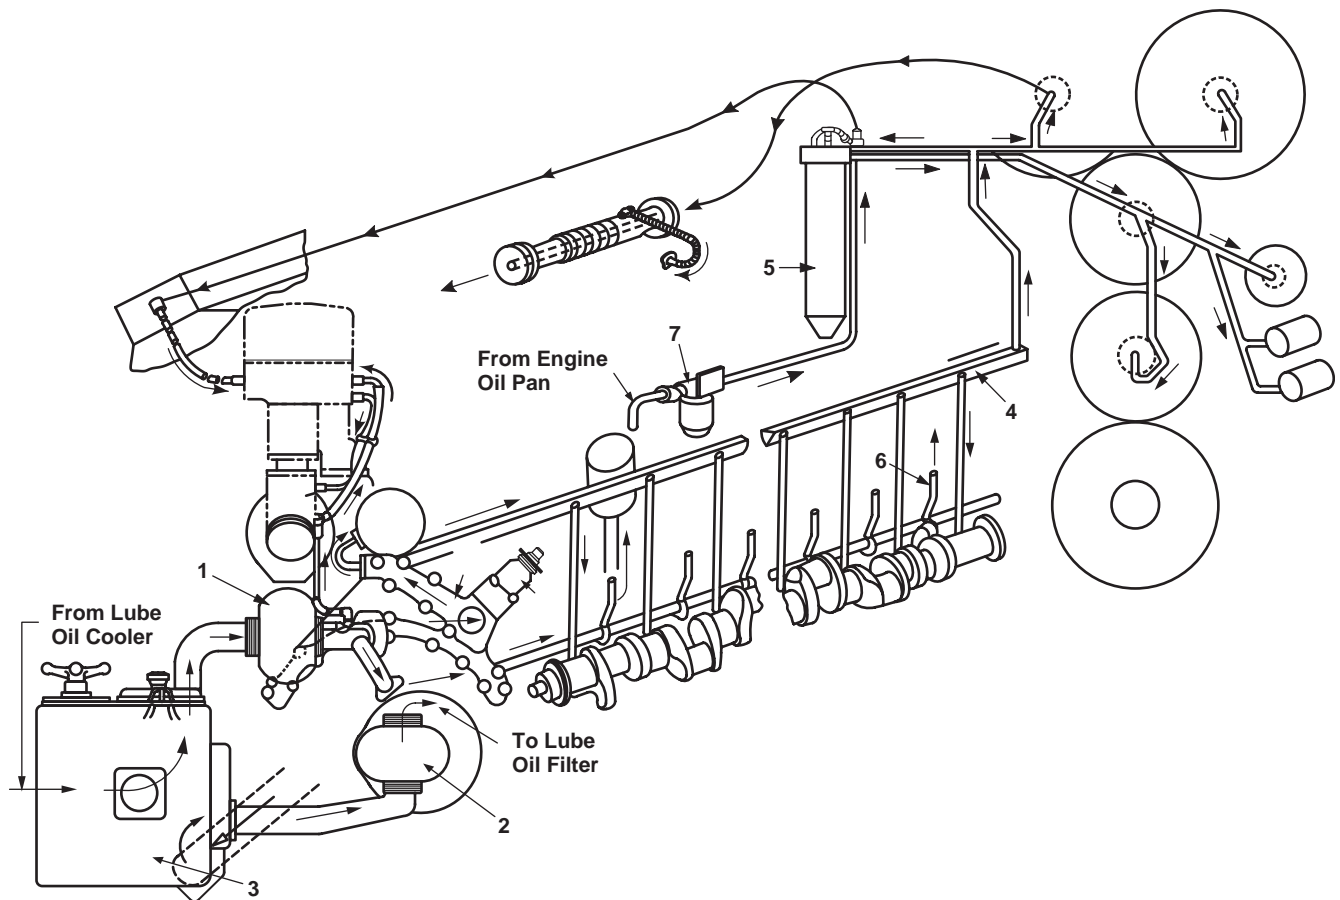

Figure 4. Main Engine Lubrication System
The complete engine lubricating oil system is a combination of five separate systems, holding 125 gallons (473 liters) of lubricating oil. The five separate systems are: the main lubricating system, the piston cooling system, the scavenging oil system, the turbocharger lubrication (soakback) system, and the prelube system. Each system has its own oil pump. The main lube oil pump and main lube oil and piston cooling oil pump (figure 4, item 1), although individual pumps, are both contained in one housing and driven from a common drive shaft. The scavenging oil (figure 4, item 2), soakback, and prelube pumps are separate pumps. All pumps except the soakback and the prelube pumps are driven from the accessory gear train at the front of the engine.
The main lubricating oil system supplies oil under pressure to most of the moving parts of the engine. The main lube oil and piston cooling oil pump (figure 4, item 1) take oil from the strainer housing (figure 4, item 3) at the right front of the engine. Oil from the main lube oil and piston cooling oil pump goes into the main oil manifold (figure 4, items 4), which is located above the crankshaft and extends the length of the engine.
Oil tubes at the center of each main bearing "A" frame conduct oil from the main manifold (figure 4, item 4) to the upper half of the crankshaft bearings. Drilled passages in the crankshaft supply oil to the connecting rod bearings, damper, and accessory drive gear at the front of the crankshaft. Runoff oil from the adjacent main bearings lubricates the crankshaft thrust bearings.
Oil from the main lube oil manifold (figure 4, item 4) enters the gear train at the idler gear stubshaft bracket located at the rear of the engine. Oil passages in the stubshaft bracket distribute the oil. One passage conducts oil to both the right and left bank camshaft drive, gear stubshaft brackets, and to a manifold connected to the turbocharger oil filter (figure 4, item 5). After passing through the turbocharger oil filter, the oil enters the return line in the manifold and flows back to the idler gear stubshaft. A passage in the idler gear stubshaft bracket directs lube oil to the upper and lower stubshaft bearings. Filtered oil enters the turbocharger oil system from the upper idler gear stubshaft.
An oil passage in the turbocharger oil filter (figure 4, item 5) head, parallel to the turbocharger oil filter output line, is connected to a passage in the turbocharger oil manifold. An oil pressure line is connected between the manifold passage and the low oil pressure device in the governor.
Internal parts of the piston are lubricated and cooled by the piston cooling oil pump of the main lube oil and piston cooling oil pump (figure 4, item 1). The piston cooling oil pump receives oil from a common suction with the main lube oil pump and routes oil to the two piston cooling oil manifolds extending the length of the engine, one on each side. A piston cooling oil pipe (figure 4, item 6) at each cylinder directs a flow of oil through the carrier to cool the underside of the piston crown and the ring belt. Some of this oil enters the oil grooves in the piston pin bearing and the excess oil drains out through holes in the carrier crown to the sump.
The scavenging oil system pump (figure 4, item 2) takes oil through the scavenging oil strainer from the oil pan sump or reservoir. The pump forces the oil through the oil filters and oil cooler that are located forward of engine. Oil then returns to the strainer housing to supply the main lube oil pump and piston cooling oil pump with cooled and filtered oil. Excess oil spills over a dam in the strainer housing and returns to the oil pan.
Prior to the engine startup, a soakback pump lubricates the turbocharger. Oil is drawn from the engine oil sump and passes through a soakback pump filter (figure 4, item 7). Oil is then supplied to the turbocharger through external piping, which is connected to the engine-mounted filter housing. In operation, the turbocharger is lubricated by the main oil pressure pump of the main lube oil and piston cooling oil pump (figure 4, item 1) through internal passages within the engine. Before entering the turbocharger, the oil passes through an engine mounted turbocharger filter (figure 4, item 5).
A pressure relief valve set at 379 PSI (26 bar) is located in the head of the turbocharger oil filter (figure 4, item 5). When the engine starts, and while the motor driven pump is still running, main lube oil pressure from the engine-driven pump becomes greater than the motor driven pump pressure. Since there is no outlet for the lower pressure oil, the relief valve will open when the pressure builds up to 379 PSI (26 bar), and the oil will return to the pan through a passage in the turbocharger oil filter head mounting flange. Also located in the turbocharger oil filter head is a bypass valve, set at 483 PSI (33 bar). This valve will open to permit motor driven pump pressure to bypass a plugged filter element so that lubrication can be supplied to the turbocharger to prevent turbo damage.
The turbocharger oil filter (figure 4, item 5) provides additional protection for the high-speed bearings and other lubricated areas of the turbocharger by filtering the oil just before it is admitted to the turbocharger. Oil enters the filter through a cast manifold and, after passing through the filter, returns to the upper idler gear stubshaft and into the turbocharger. The filter element is pleated paper construction, and is disposable. The filter is mounted on the camshaft drive housing at the right bank of the engine.